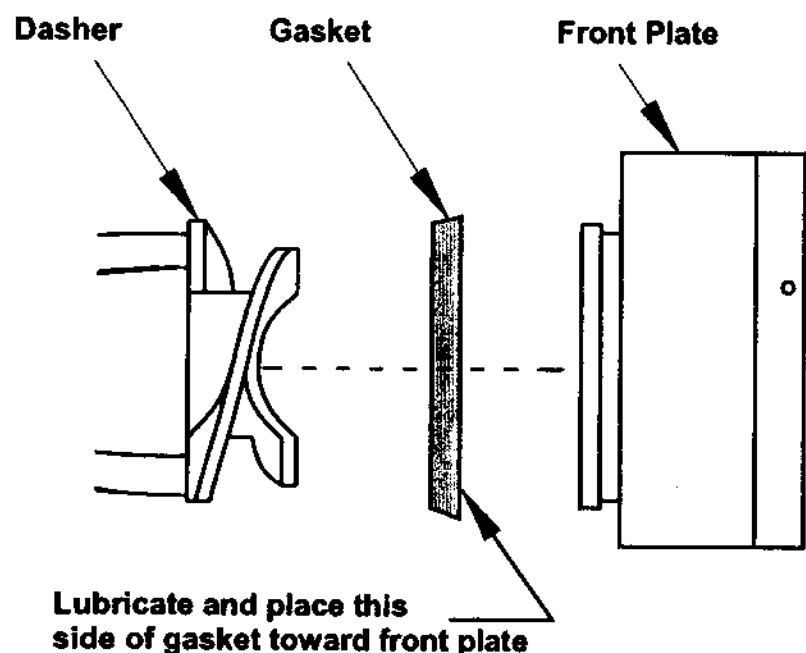

**Fig. 19**
- Install the two o-rings on each spigot plunger (double o-ring on the plunger with vertical grooves) by rolling them onto the plunger. Seat the o-rings in the grooves making certain that they are not twisted. Smooth the lubricant into the grooves and over the sides of the plunger assemblies (Fig. 19).